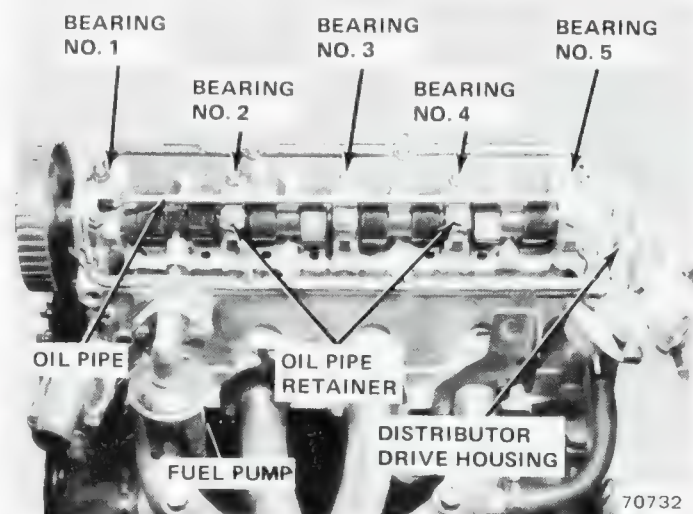

Fig. 1B-15 Camshaft and Bearings
- (1) Remove TAC flexible hose.
(2) Disconnect ignition wires from spark plugs. Disconnect clip from cylinder head cover. Remove distributor cap with ignition wires attached.
(3) Loosen and remove accessory drive belts.
(4) Remove camshaft drive belt guard.
(5) Loosen tensioner and remove camshaft drive belt.
(6) Remove camshaft sprocket. Use suitable tool wrapped in shop towel to prevent turning.
(7) Disconnect distributor primary wire and vacuum line. Remove distributor housing with distributor attached.
(8) Remove PCV hose. Remove cylinder head cover.
(9) Remove two 10 mm screws from number 5 bearing cap.
(10) Remove nuts from bearing caps 1, 3 and 5 (fig. 1B-15).